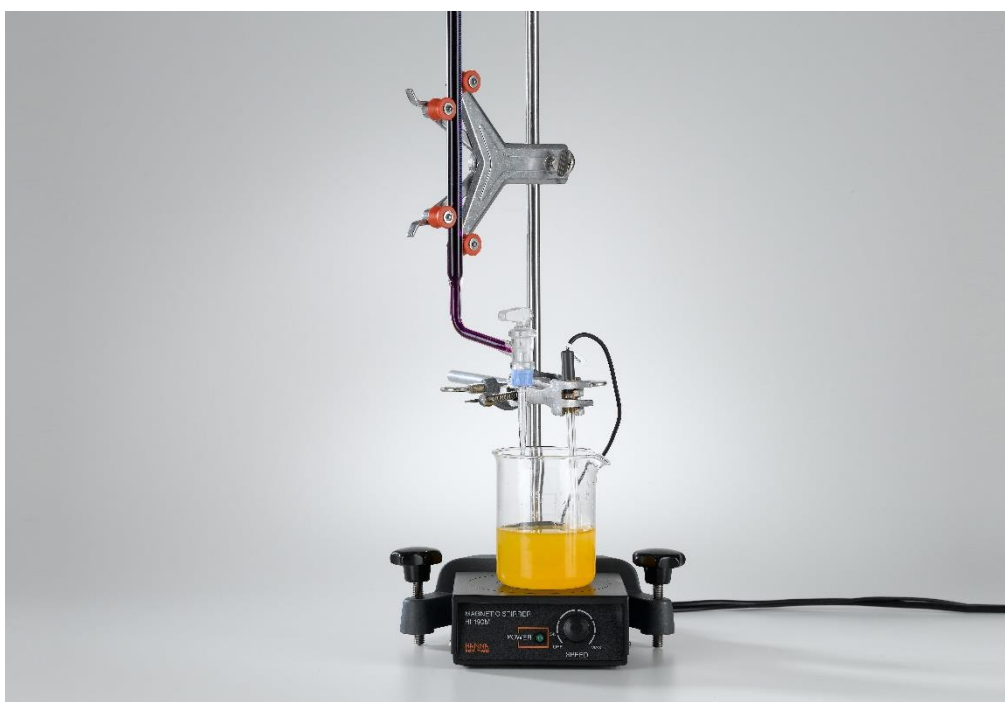

Fig. 1: Setup of the Experiment.
- The apparatus is set up as can be seen in Fig. 1.